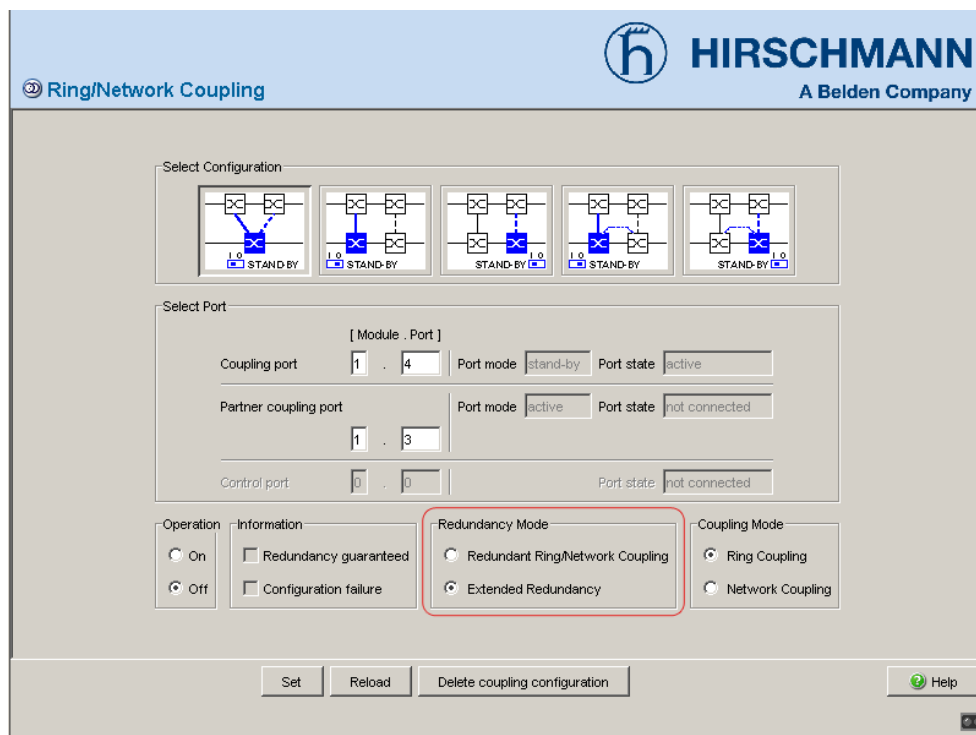

Figure 10: Selecting the redundancy mode
- ☐ In the “Redundancy Mode” frame, select (see fig. 10)